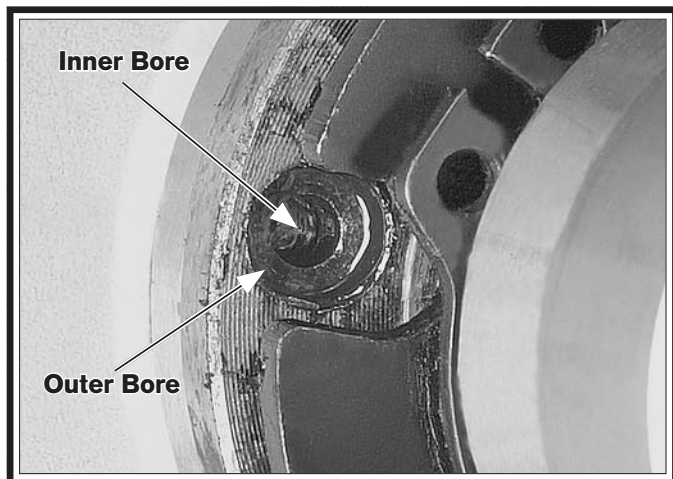

Figure 132. Shear pin bores aligned.
6. Use the magnet to remove the shear pin head, then rotate the lathe spindle to line up the inner and outer bores, as shown in **Figure 132**. Next, use the magnet to remove the other half of the broken shear pin when it becomes visible.